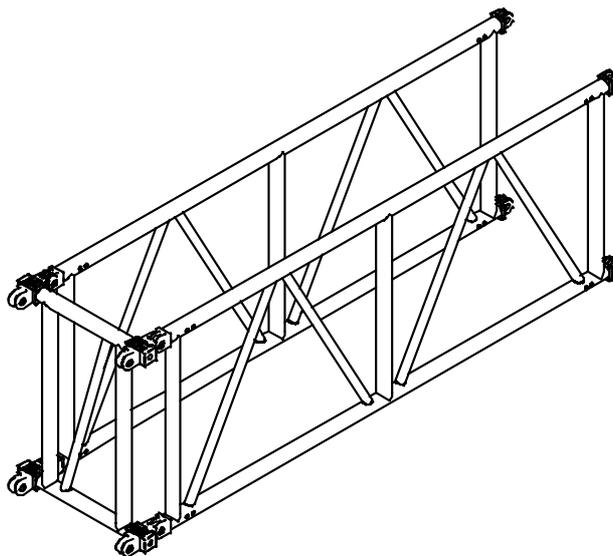

Fig. 17
3. connect two Libera flat units, according to the draw (fig. 17).
4. Complete the Libera module using a 47 cm gate (fig. 17).